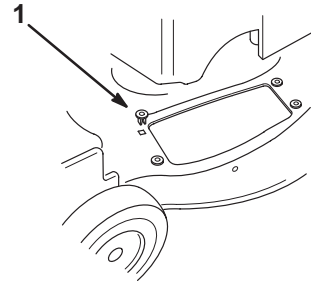

Figure 34
6. Install four grommets supplied with the grass catcher into the four square holes in the lawn mower (Fig. 34).